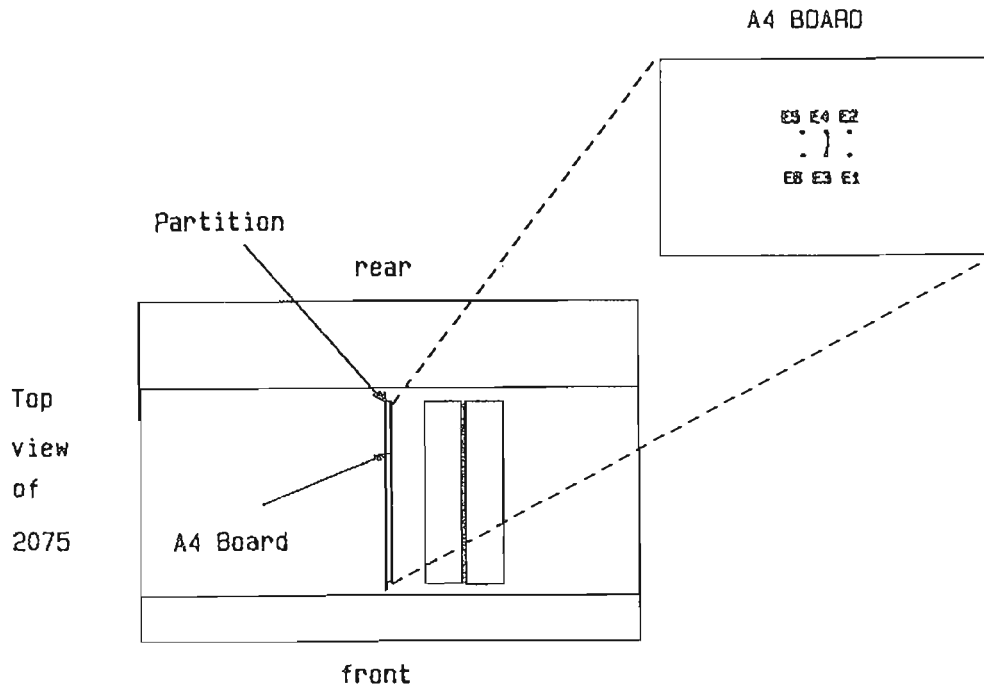

Figure 2-2. EXTERNAL RELAY VOLTAGE SELECTION
This voltage is jumper selectable and can be set to +5, +15, or +30 volts DC. It is set to +30 volts before the unit is shipped from the factory. Refer to Figure 2-2 and perform the following steps to select +5 or +15 volts DC.
4. Locate the A4 board. Its position is shown in Figure 2-2 above.
7. Locate the pins E1 through E6. These are located in the center of the board as shown in Figure 2-2 above. A jumper is installed between pins E3 and E4, selecting +30 volts.